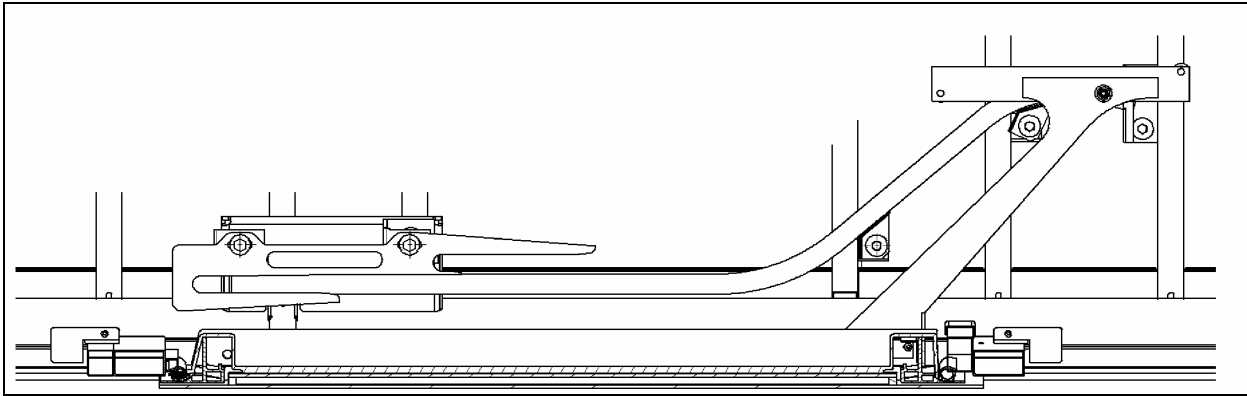

FIGURE 47: WCL UPPER ARM AND RAIL
2. Slide the top rail into the upper arm then bolt the rail to the structure. Do not fully tighten (Refer to fig. 47).